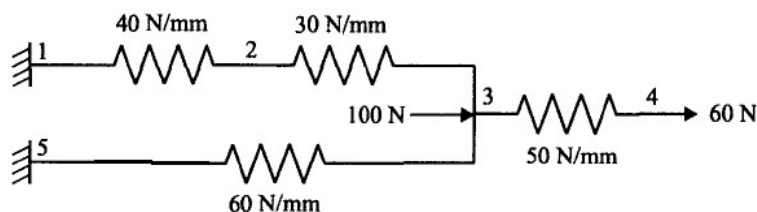

Fig: 2
4. Consider the spring assembly system shown in fig: 2 below. Using finite element method (FEM) find out the global stiffness matrix and then find out deflections at node 2, 3 and 4.